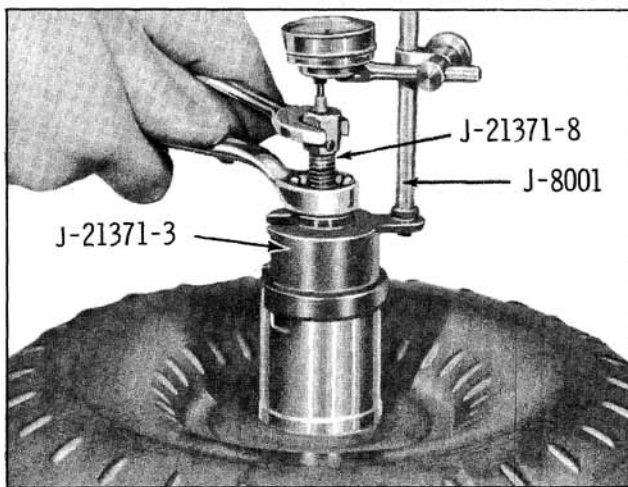

Fig. 6-549 Installing Tool J-21371-3
- b. Install available Tool J-21371-3 and tighten hex nut. (Fig. 6-549)